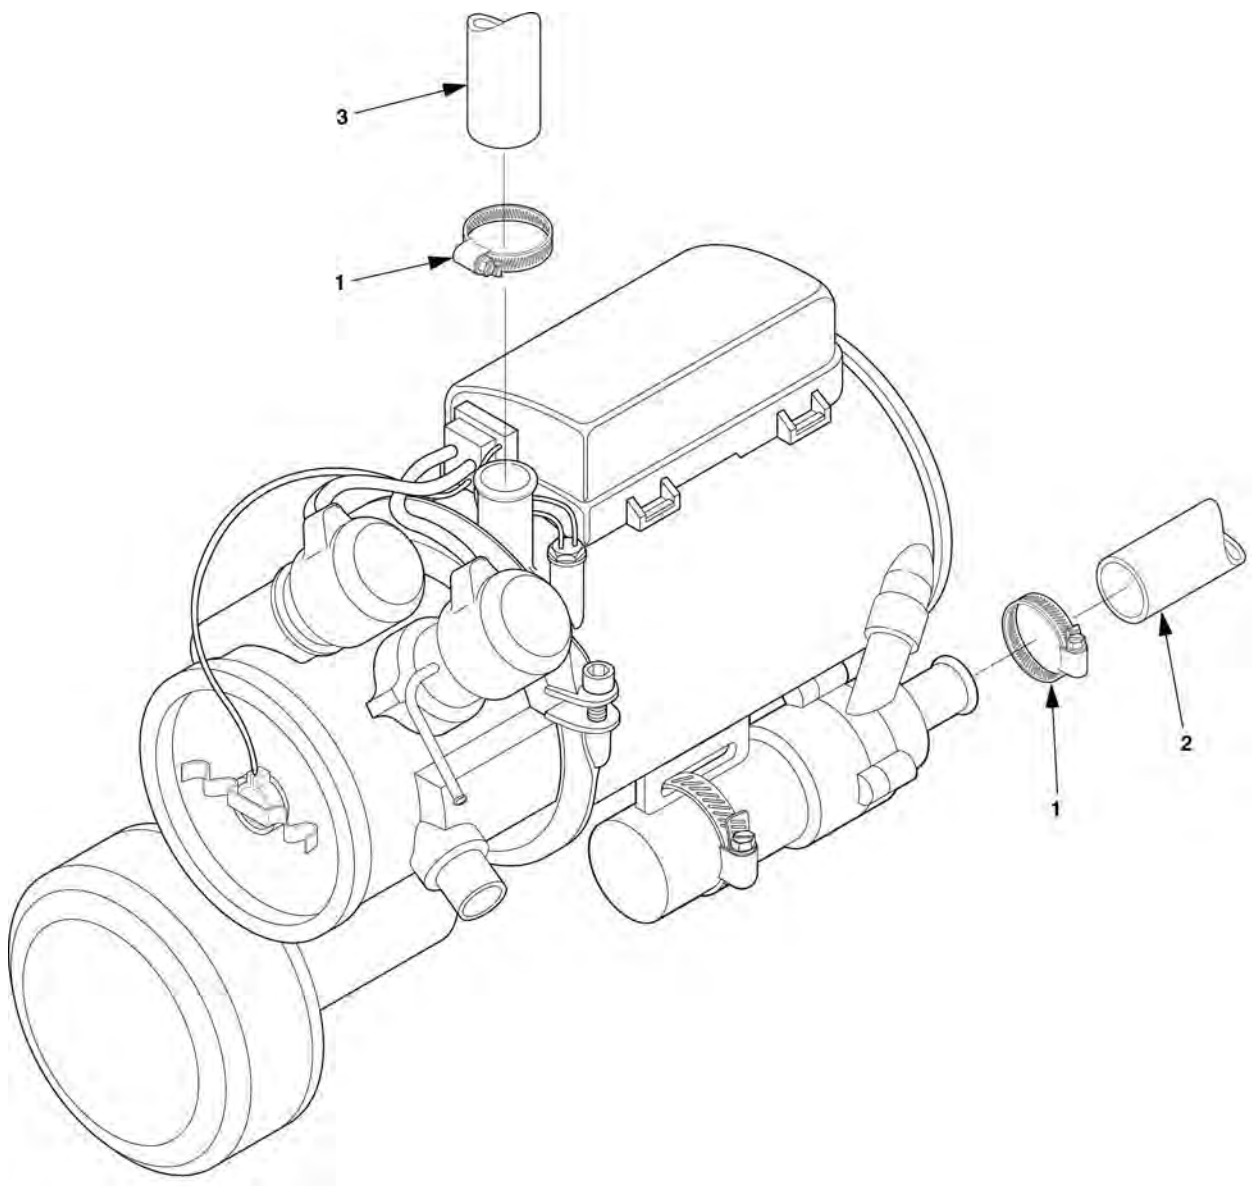

Figure 4-25 Coolant Hose Maintenance.
2. Loosen screw clamps (1), Figure 4-25, to disconnect either or both coolant hoses, inlet (2) and/or outlet (3), from the heater. Drain any coolant from the hose into a suitable container.
3. Loosen screw clamp (1) to disconnect coolant hose, inlet (2) and/or outlet (3), to be replaced from engine block or water pump.